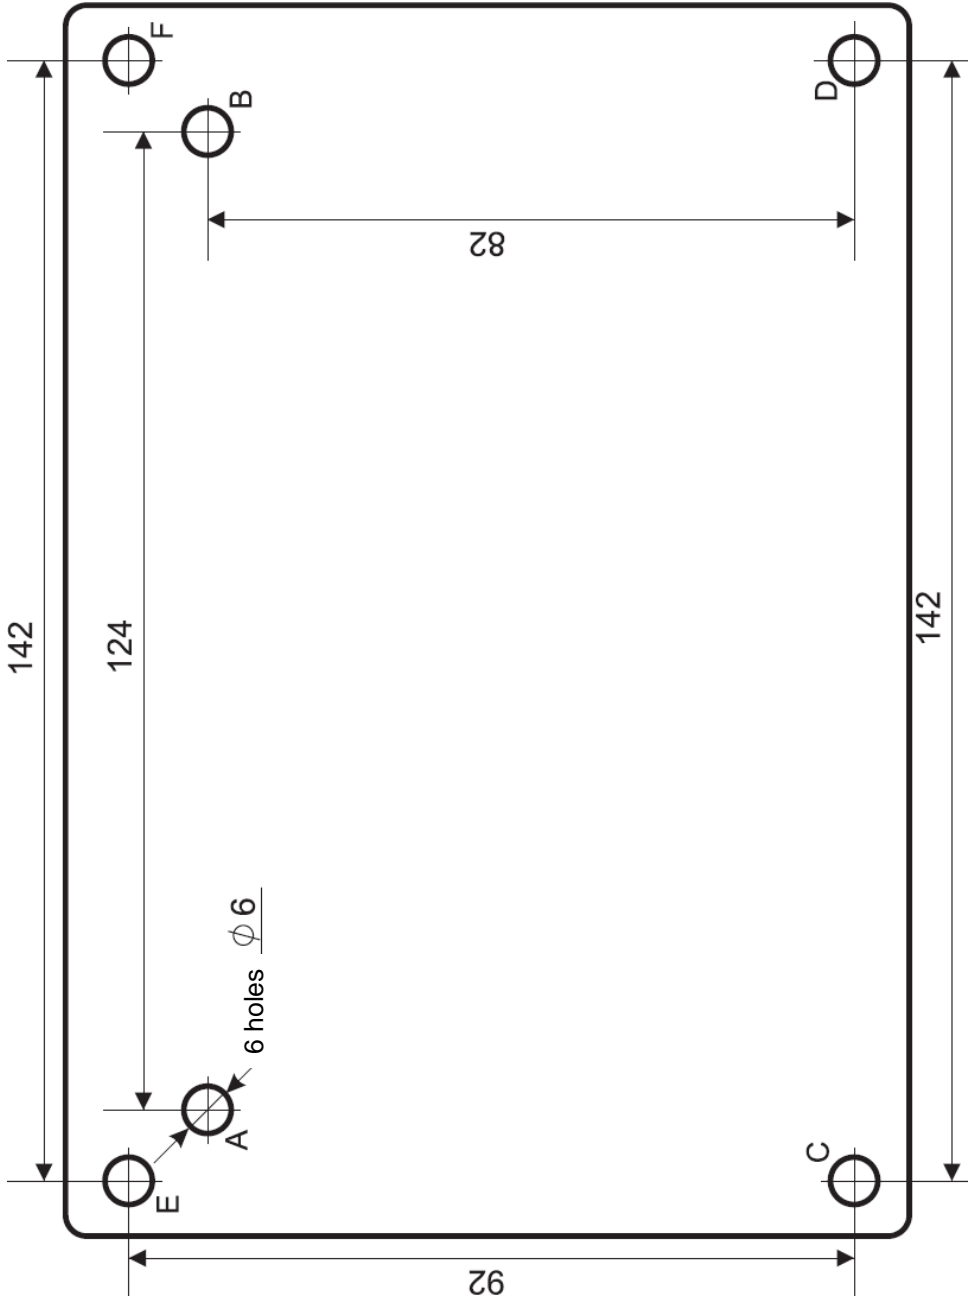

Figure 9. Drilling Template
3.1.3 **Type 1.** Apply the drilling template to the wall (Figure 9). Drill three holes (A, B and one of the C or D holes).
3.1.7 **Type 2.** Apply the drilling template to the wall (Figure 9). Drill three holes (E, F, and C or D as you wish).